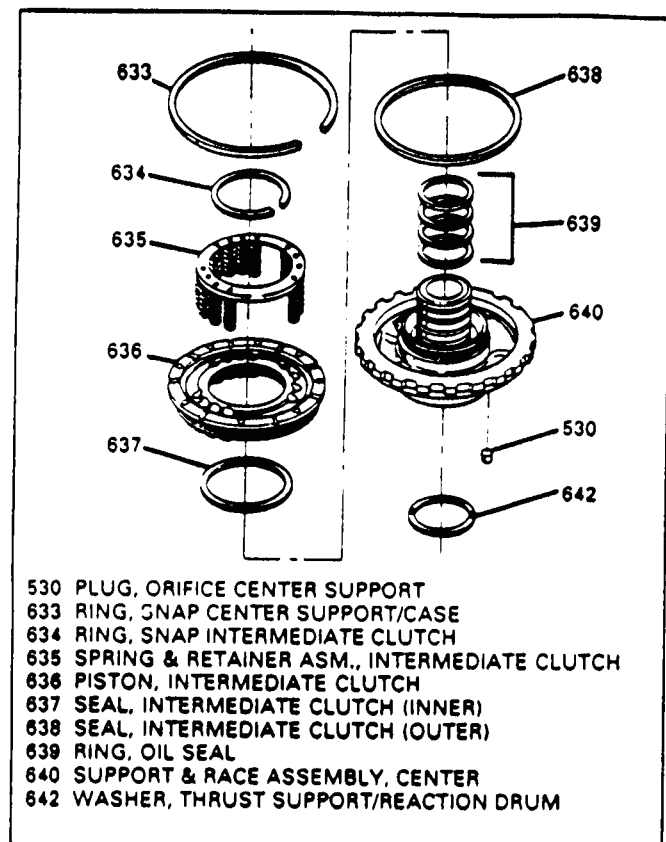
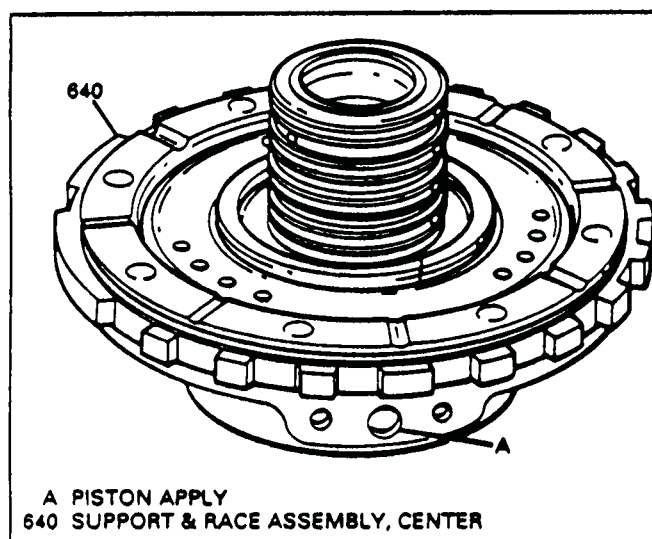

Figure 65
Figure 68
18. Install the inner and outer lip seals onto intermediate piston, with the lip facing away from spring pockets. (See Figure 65).
22. Install return spring and retainer assembly into the pockets in intermediate piston (See Figure 65).
24. Install new solid seal rings (639) on center support, using installer and resizing tool J-38735. See special tool section in rear of this booklet.
26. Be sure to use small chamfered end of resizer J-38735-2 to do the lower ring and the larger chamfered end to size all other seals. Start with the lower ring and work towards the top. (See Figure 68).